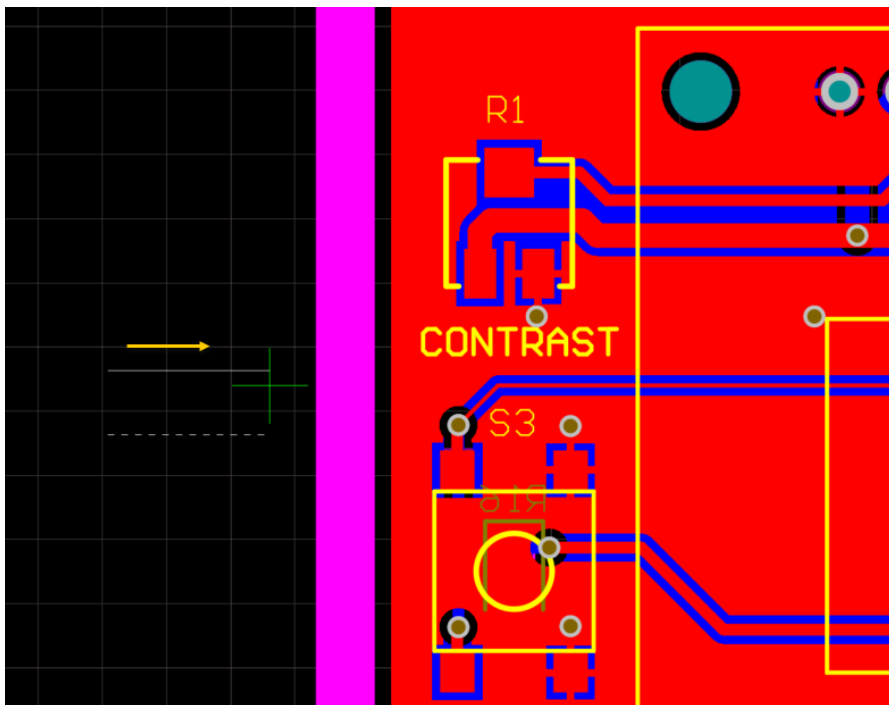

Figure 10. Slick Tracks command near the board edge
- b) Navigate to the first instance of the PCB in the top left corner, just below the pads of R1 as shown in Figure 10.
- d) Start moving your cursor to the right as shown in Figure 10. You'll notice the solid and dotted lines appear, ready to start the slicing of the tracks.